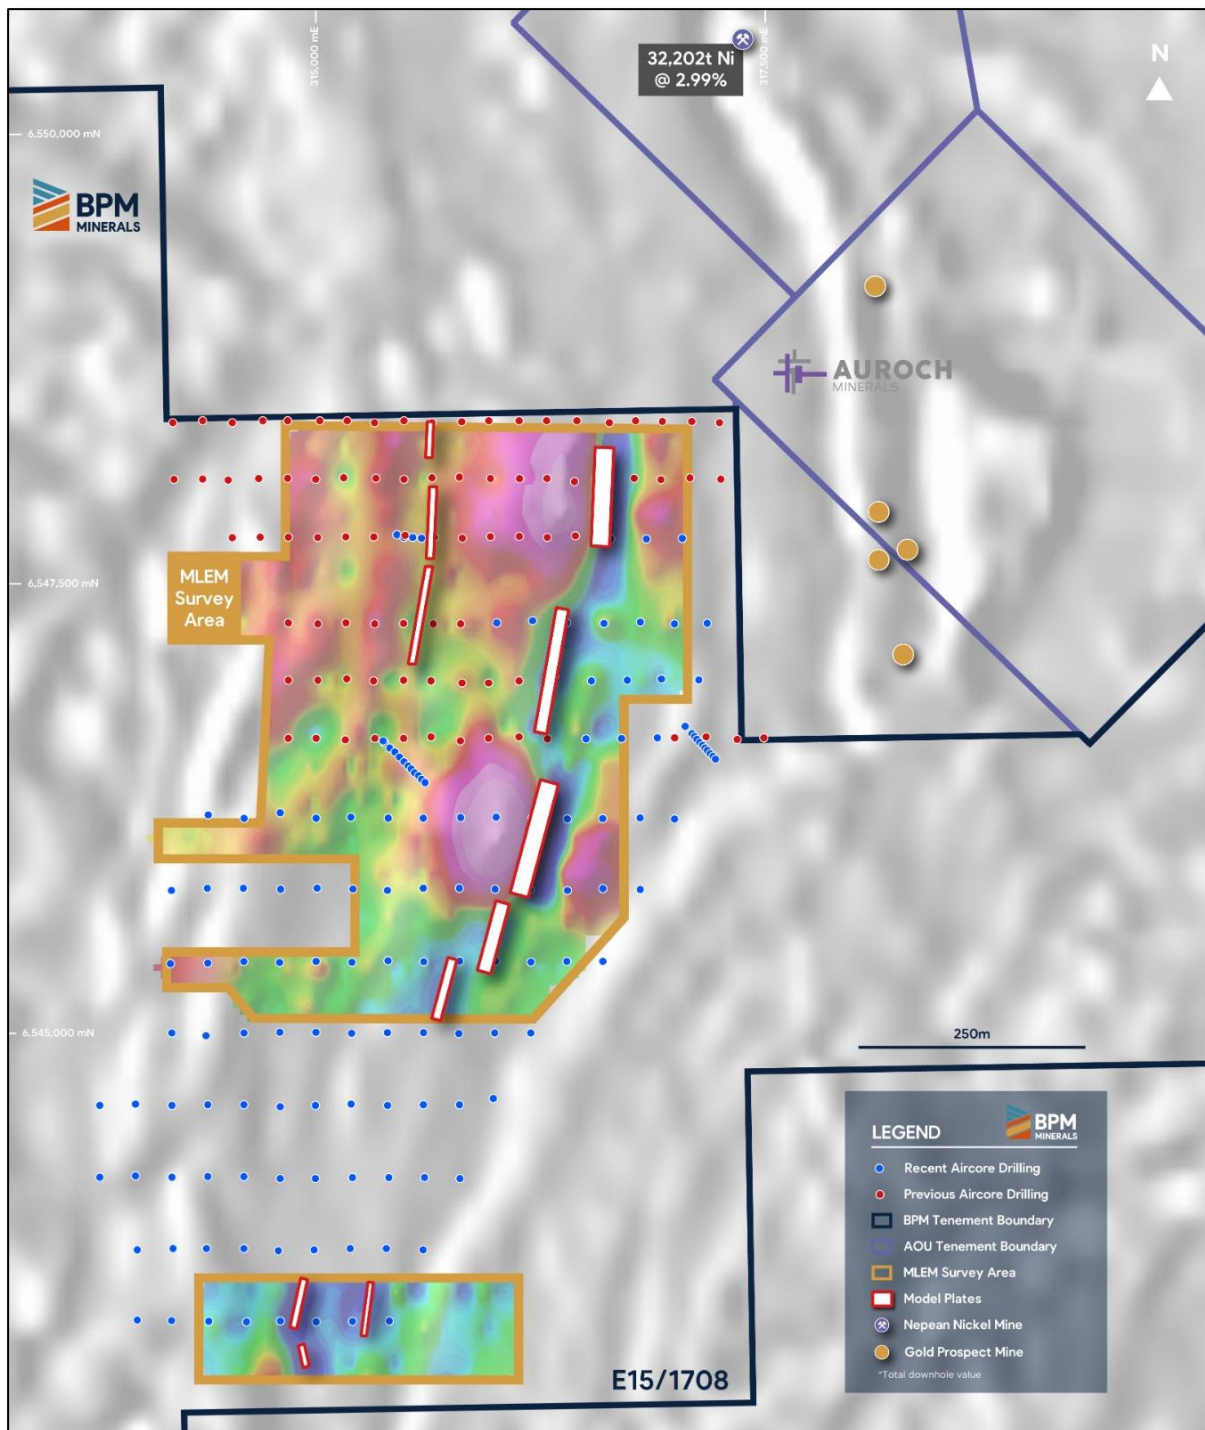

Figure 1 - Nepean Nickel Project, with 11 bedrock conductors (Model Plates) identified from the recently completed MLEM survey.
- **11 Electro-Magnetic late-time bedrock conductors (EM Plates)** identified from a MLEM survey, separated into three clusters: the Eastern, Western and Southern Clusters (Fig. 1).